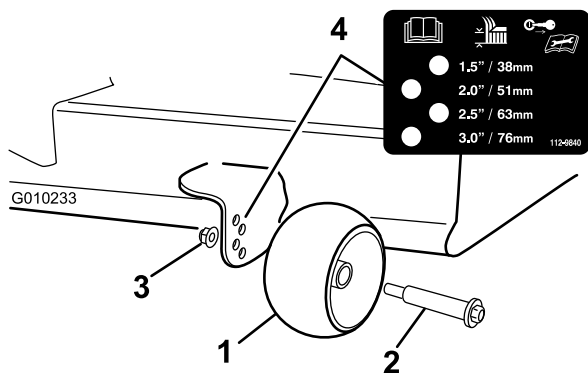

Figure 18
3. Adjust the anti-scalp rollers as shown in Figure 18 to match the closest height-of-cut position.